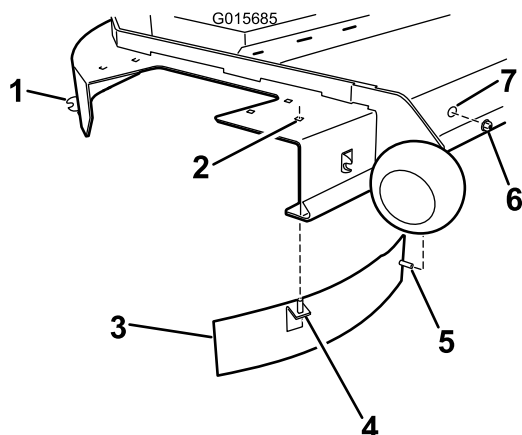

Figure 8
- Install a baffle to deck (Figure 8). **For 48 inch decks, use a straight baffle. For 54 inch decks, use a curved baffle.** Align the vertical post in the baffle with forward hole in the deck. Rotate the baffle until the horizontal post aligns with the hole in the front wall of the deck. Secure it to the front wall of the deck using a lock nut.